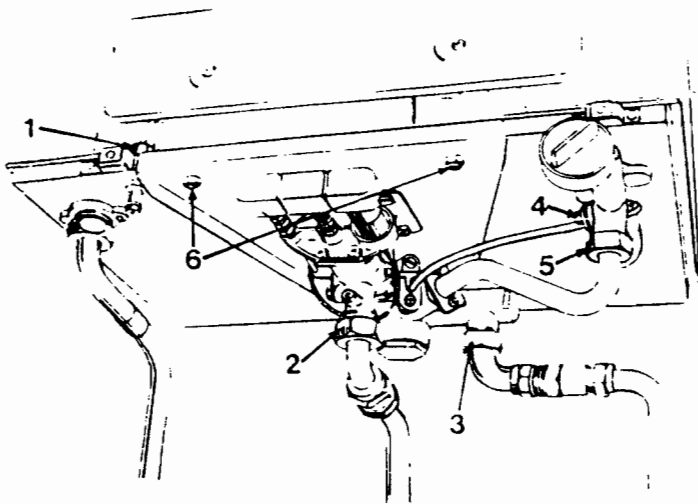

FIG. 1
Release P.T. extension tube connection at (1) Fig. 1.
Release gas inlet connection at (2) Fig. 1.
Release screw(s) and clip securing sensing tube(s) at (4) Fig. 1.
Holding the controls tray securely, release two Nuts at (6) Fig. 1. Note position of rubber washers under the screw heads. Remove controls assembly tray by carefully pulling forwards. Avoid catching the P.T. extension tube and the water governor feed pipe.